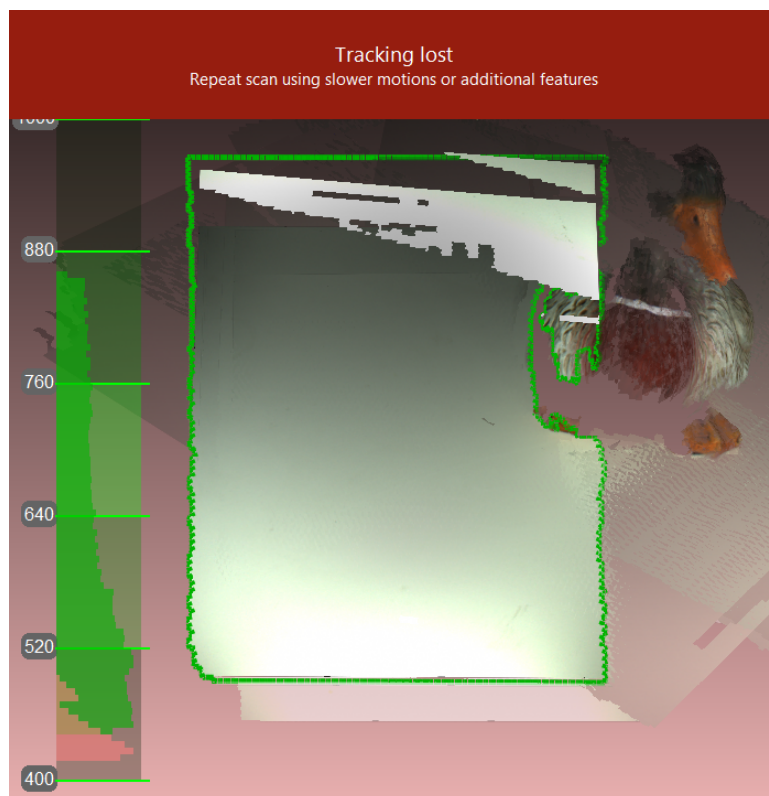

Figure 5.7: Alert message: tracking lost.
- Artec Studio switches almost instantly from displaying *Tracking lost* mode (see Figure 5.7) to *Searching for position*, which appears on a green background.